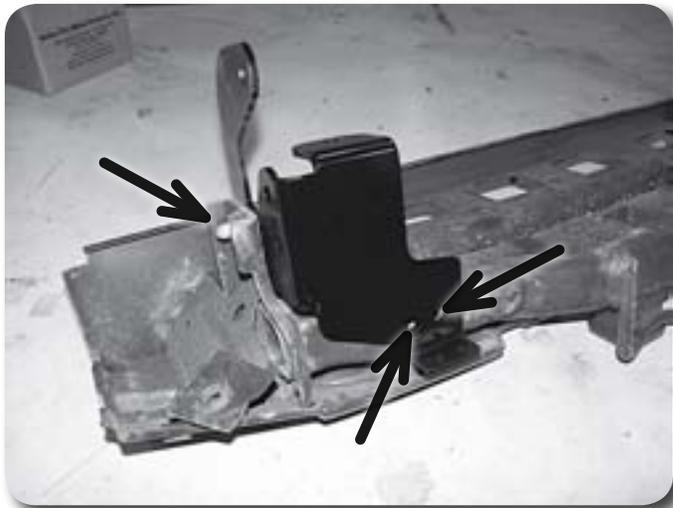

Figure 32
56. Place bumper brackets onto rear bumper. Align bumper bracket with bottom of bumper. One existing hole will line up on the bottom and the original mounting hole with a 16mm nut will line up with bracket Figure 32.
57. Drill the existing lower hole out to  $\frac{1}{2}$ ". Mark and drill the other hole on the bottom of the bracket to  $\frac{1}{2}$ " Figure 32.